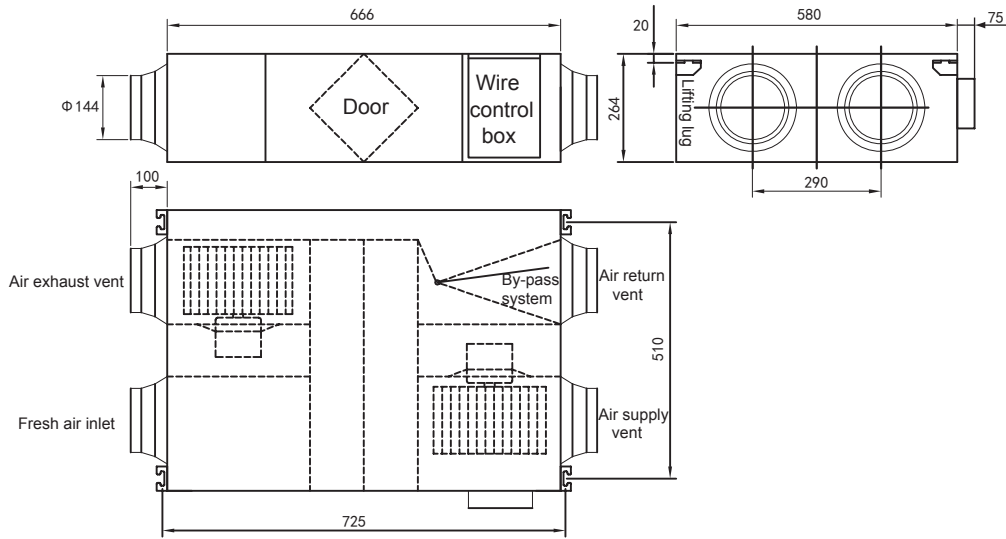

Fig. 3-4
6. Key dimensions of the unit and air duct installation. (See the following attached picture Fig.3-4~3.7 & Table 3-1)